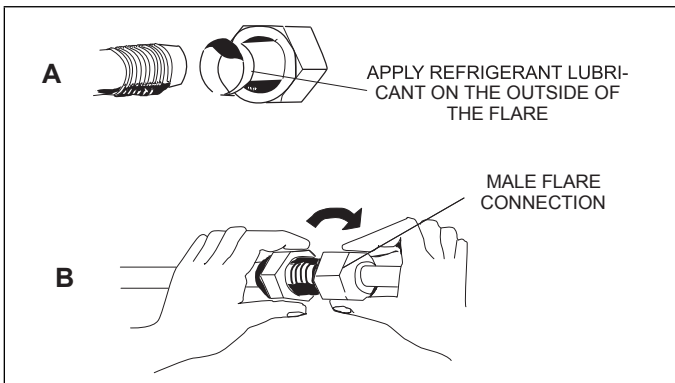

Figure 25. Making Connections (Male to Female Connection)
15. Align the threaded connections with the flared refrigerant lines. Tighten the flare nuts slightly at first to obtain a smooth match as illustrated in "Figure 25. Making Connections (Male to Female Connection)".